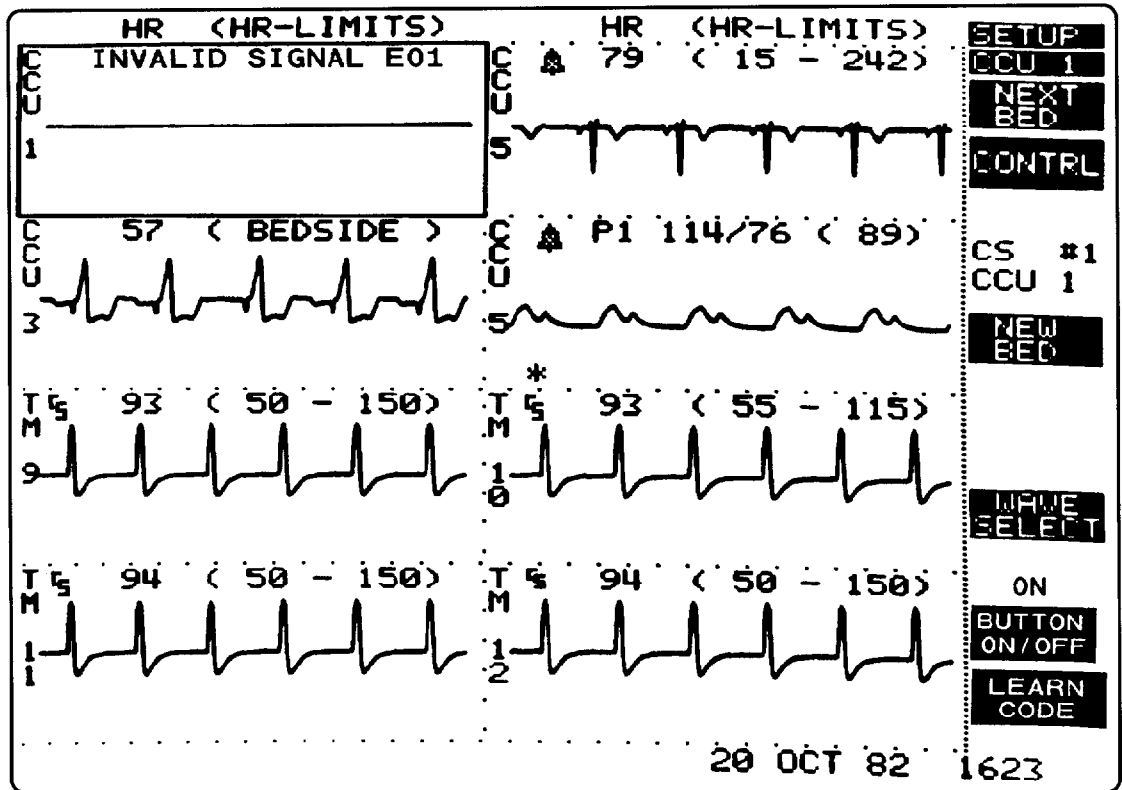

Figure 1-21. HP 78508A PIC Learn Code Screen
The Patient Information Center (PIC) and the receiver mainframe are assumed to be turned on and running and that the telemetry bedside has been assigned to a sector. Refer to Figure 1-21 for the learn code screen.
5. The Invalid Signal E01 INOP message is shown and the **LEARN CODE** softkey will appear at the lower right corner of the display (Figure 1-21).